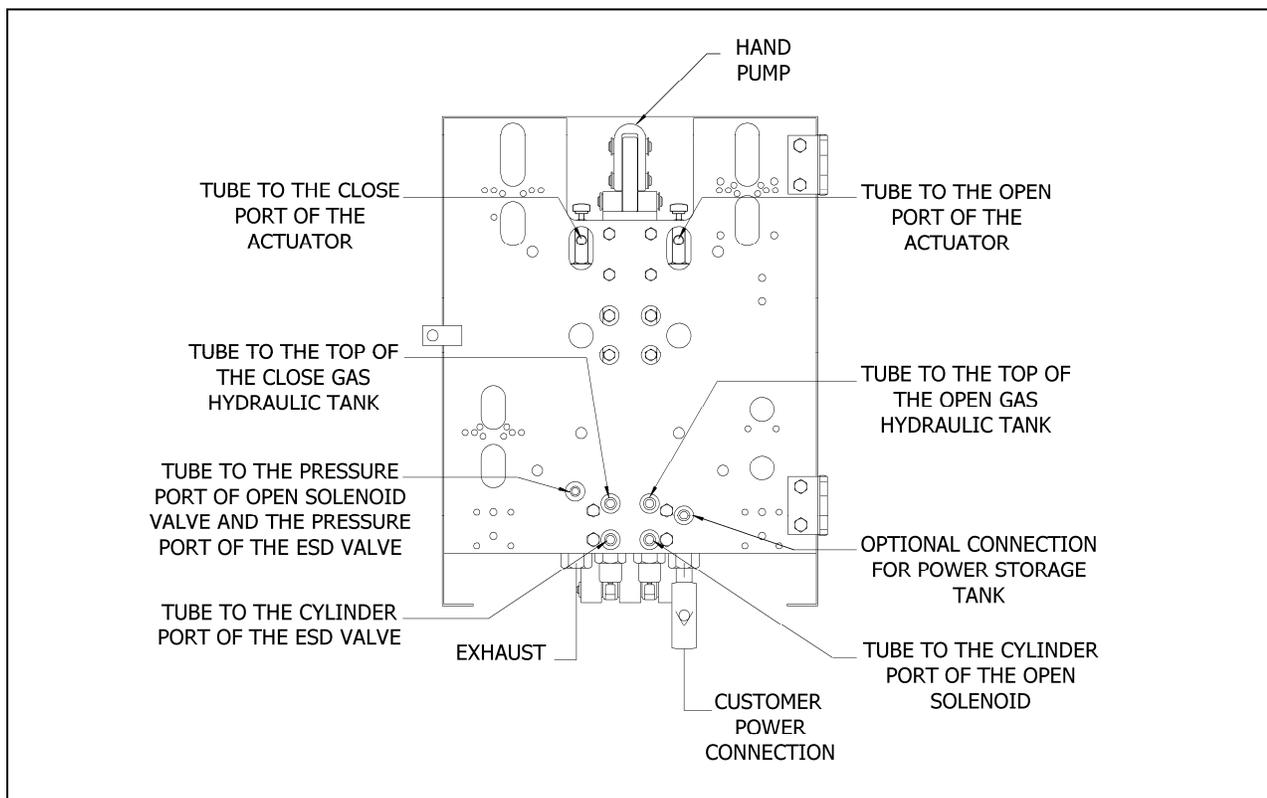

Figure 10A: View of the Control from the Back with Failsafe Fail Close (Schem. 8414-S)
- NOTE:** When facing the back of the control box the CLOSE cylinder port is on the left and the OPEN is on the right (see Figure 10A and 10B).